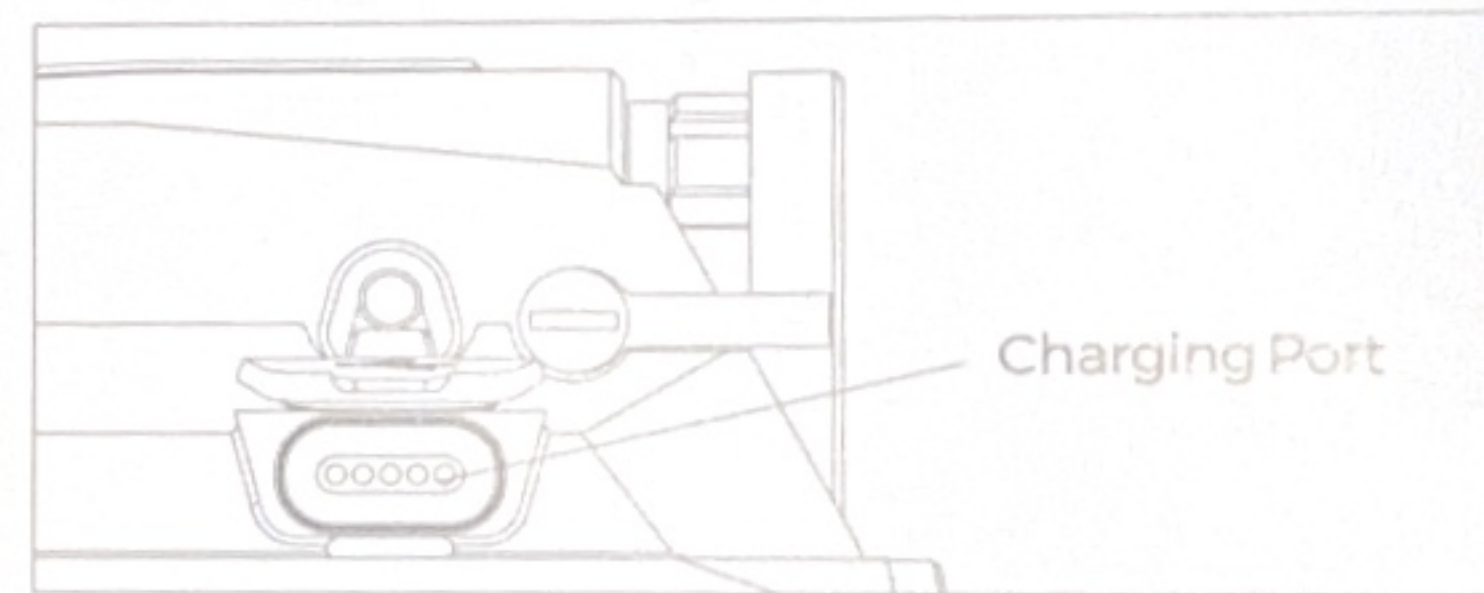

Fig 3
2) Connect the USB end of the dedicated USB magnetic cable to an external USB power source, then connect the other end of the cable to the magnetic charging port of the DRS-TH as shown in Figure 3. The magnetic connector will attach in one direction only. If the connector is repelled by the port, rotate the connector 180 degrees.